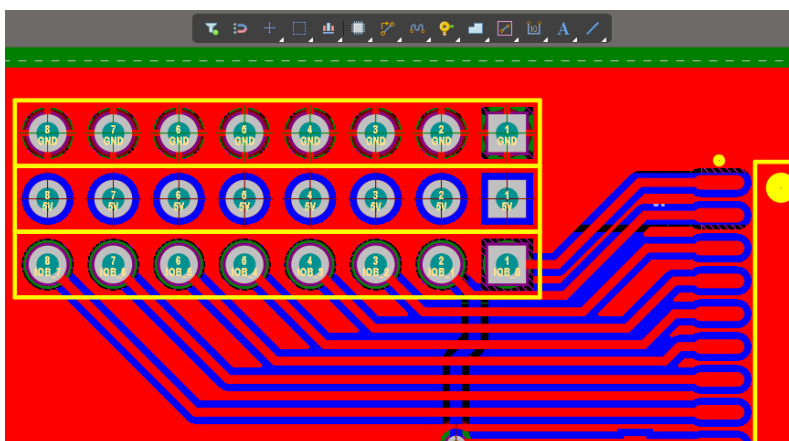

Figure 15. Routed nets with the repoured polygons
31. Repeat the previous steps for the other three (3) Un-Routed Net Constraint violations in the *PCB Rules and Violations* panel. Ensure you have enough clearance for the rest of the connections to be routed.
33. If needed, repour the polygon by going to **Tools » Polygon Pours » Repour All**. The polygon will then look similar to Figure 15 . Your polygon may repour automatically if that *Preference* option is enabled.